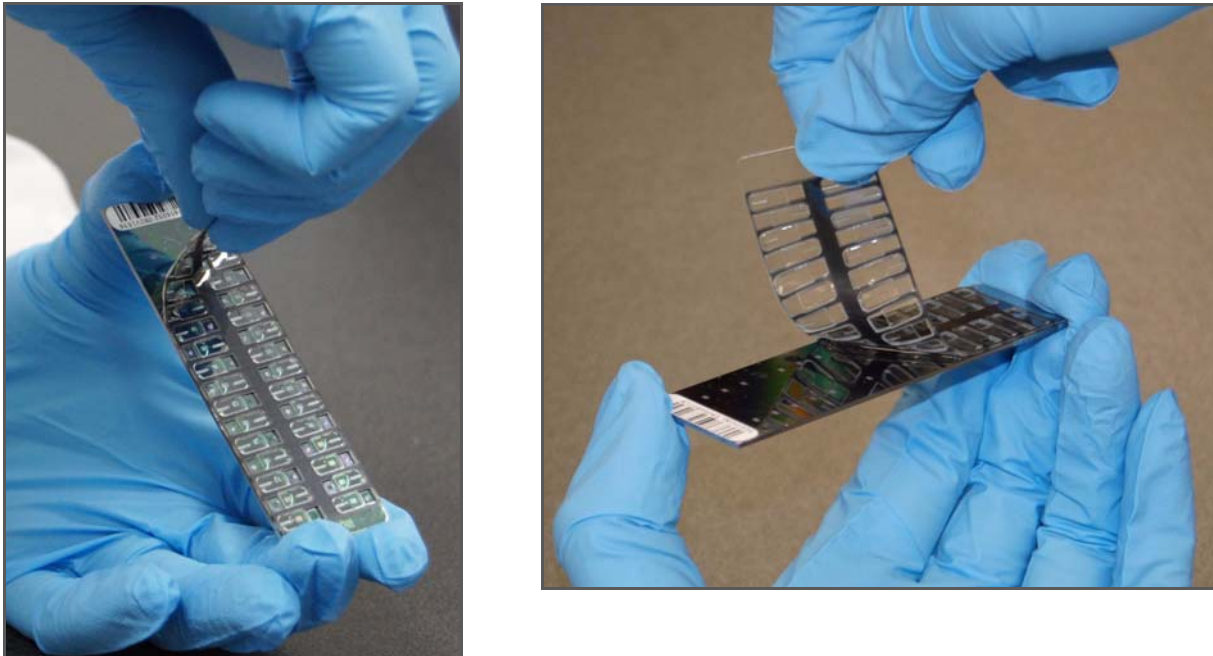

Figure 64 Remove the Coverseal from the BeadChip
7. Remove the IntelliHyb Seal from the BeadChip (Figure 64):